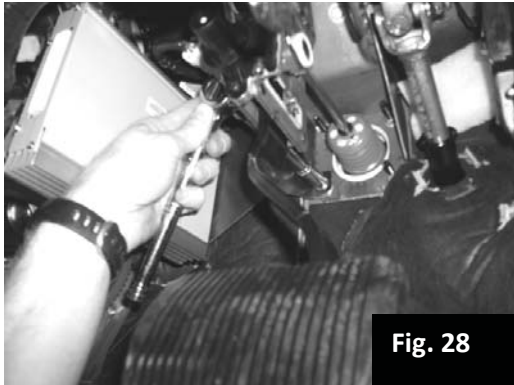

Fig. 28
49. Reinstall the brake booster nut and tighten. Torque to 25Nm. Fig. 28